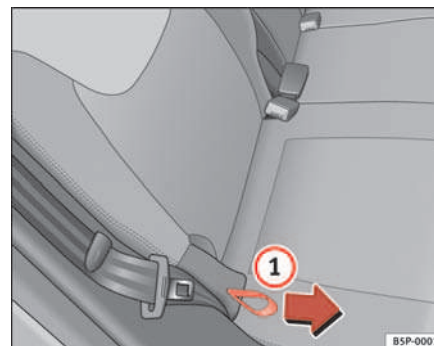

Fig. 97 Rear seat backrest angle adjustment
- Hold the backrest at the top. Pull the loop on the side of the seat ⇒ page 131, fig. 97 ① in the direction of the arrow and hold the loop in this position. Push the backrest to the required position and release the loop.